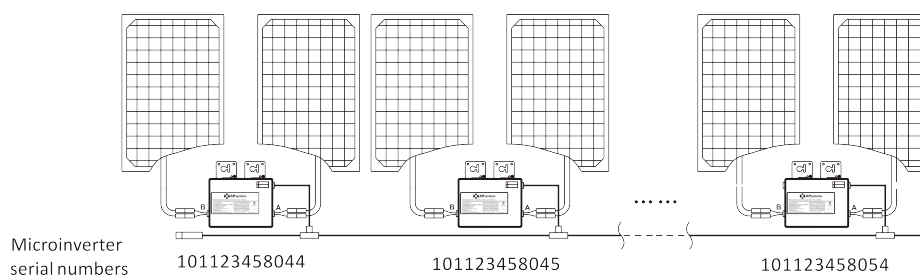

Figure 11
- Each APsystems Microinverter has removable serial number labels. Peel labels off, affix one to the respective location on the APsystems installation map, and fill in A,B in the label below (as figure12) according to the layout on the roof (as figure 11). Then affix another label to the PV module frame which is easy to see. The warranty cards can obtain from the appendix of this manual or APsystems website www.APsystems.com